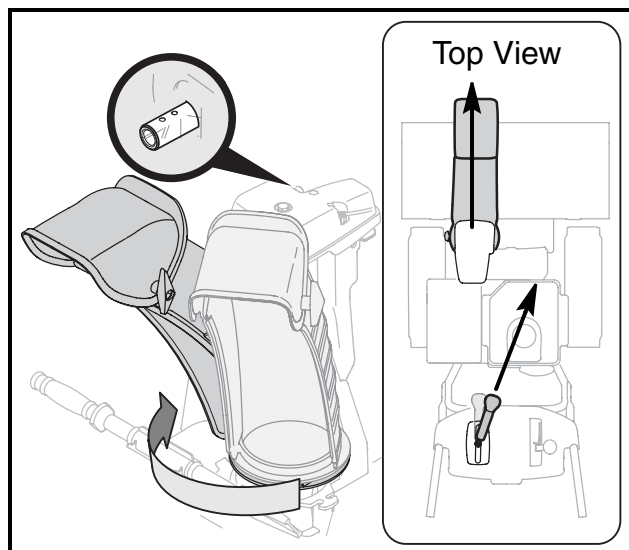

FIGURE 15
25. Squeeze the trigger on the joystick and rotate the chute by hand to face forward. The holes in the chute rotation gearbox coupler will be facing up. See Figure 15.